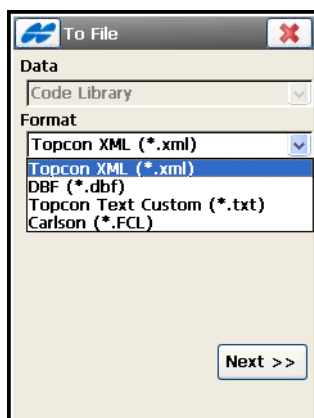

Figure 6-20. Export to Code Library
- The *Help* Icon in the upper-left corner of the screen opens the pop-up menu containing the *Export To File* option. The *To File* screen (Figure 6-20) displays to export the code library to the selected file format.
**On the To File** screen (Figure 6-20) select the file format to which to export codes of the current job. The **Next** button runs the export process.